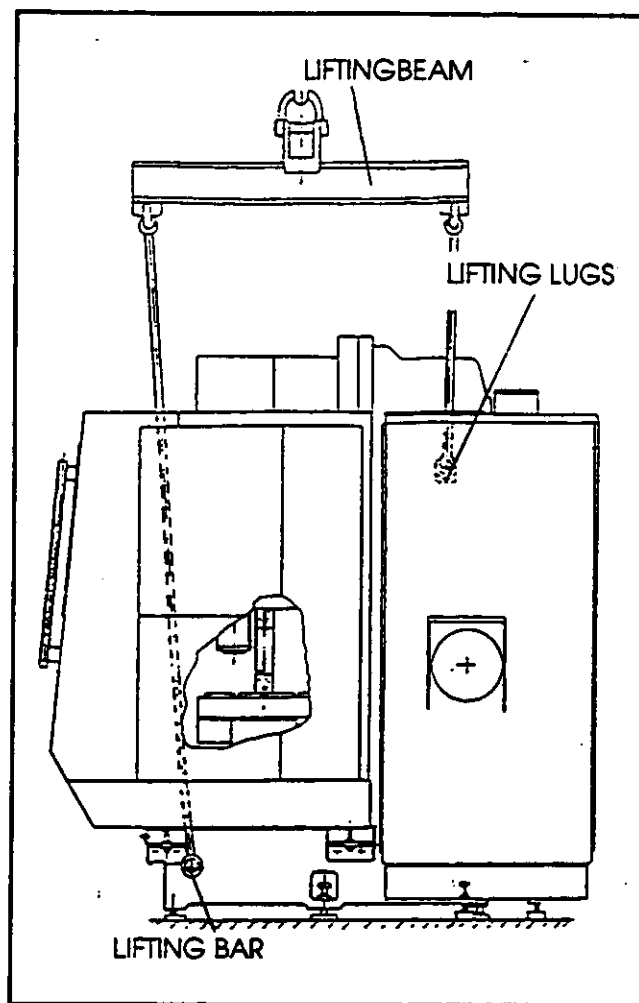

Figure 1.1 Slings
Base machine approximately 2,850 kgs or (6,300 lbs). To lift the machine you will require a steel bar approximately 50mm (2in.) diameter and 1,524 mm (5ft.) long and a lifting beam. Follow the procedure below and use the recommended method of slinging the machine as shown above (figure 1.1).
- i) Before raising the machine off the ground test for balance. Figure 1.1 clearly depicts the method of slinging. If the machine cannot be lifted in the conventional manner, it should be jacked-up onto rollers and then drawn into position. The machine together with its ancillary equipment should now be positioned on the selected site and levelled.